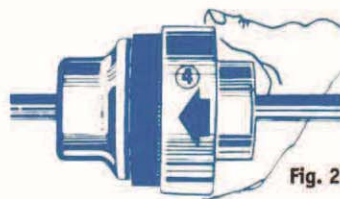

Fig. 2.
Then proceed with the alignment of the groove on the elastic insert and the reference line marked on the outside of the retaining ring (4). Once this operation has been done and with the aid of Samiflex assembly tools or a soft-headed mallet, slide the ring into place (see fig. 2).